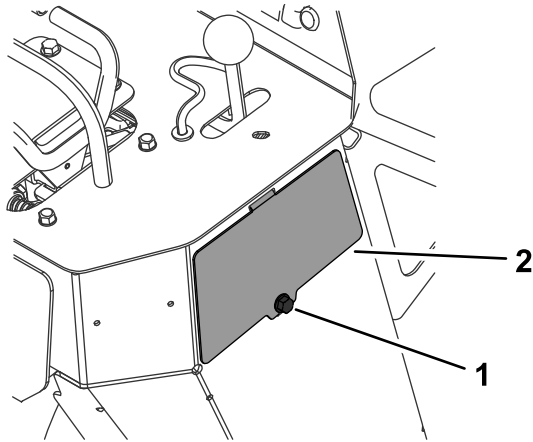

Figure 56
3. Remove the bolt and access panel on the right side of the machine (Figure 56).
5. Install the access panel and secure it with the bolt (Figure 56).